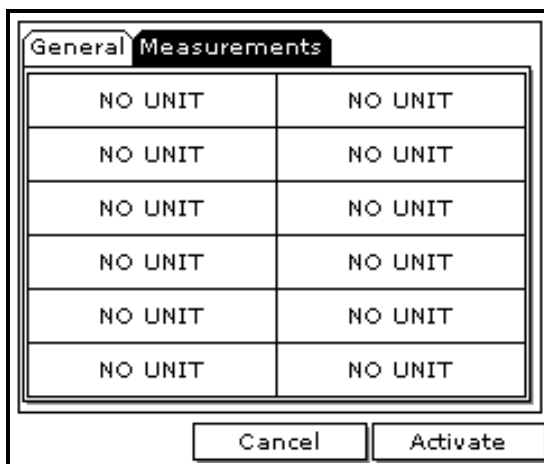

Figure 36: Log Measurements Window
2. Use the arrow keys to move to the **Measurements** tab and press [ENTER]. A screen similar to Figure 36 appears.